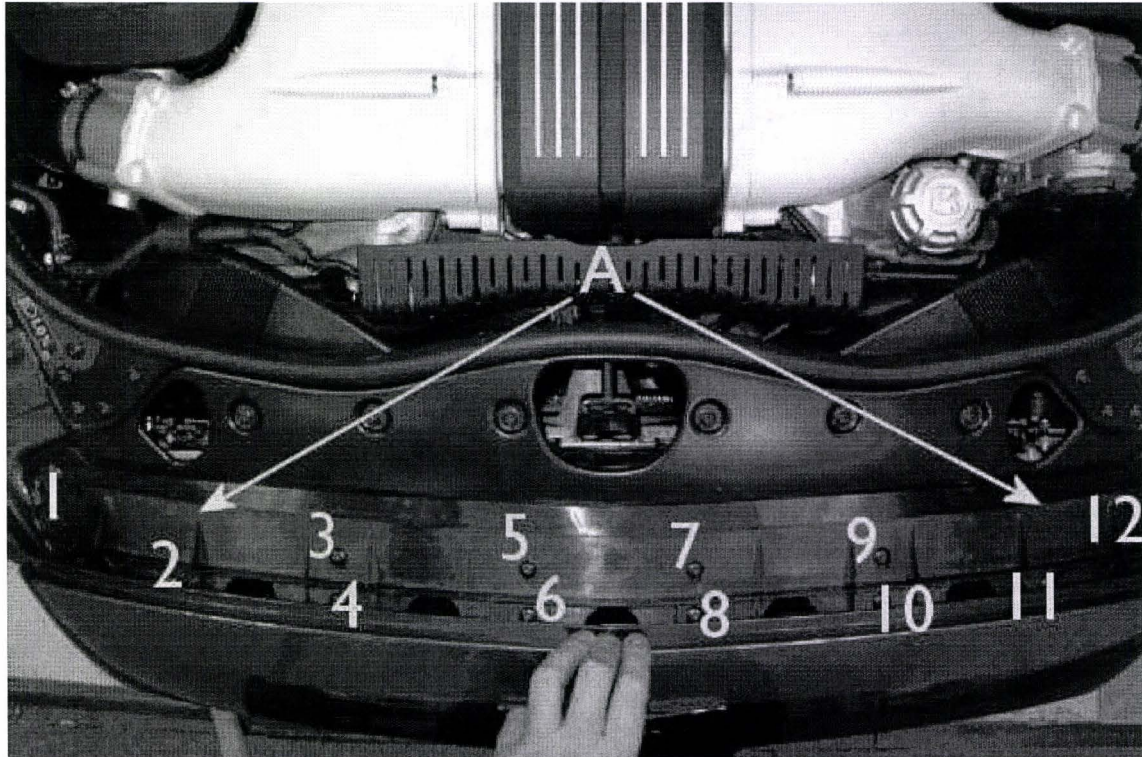

Figure 5
2. Referring to Figure 5 Point A, use a suitable non-permanent marking implement to mark the